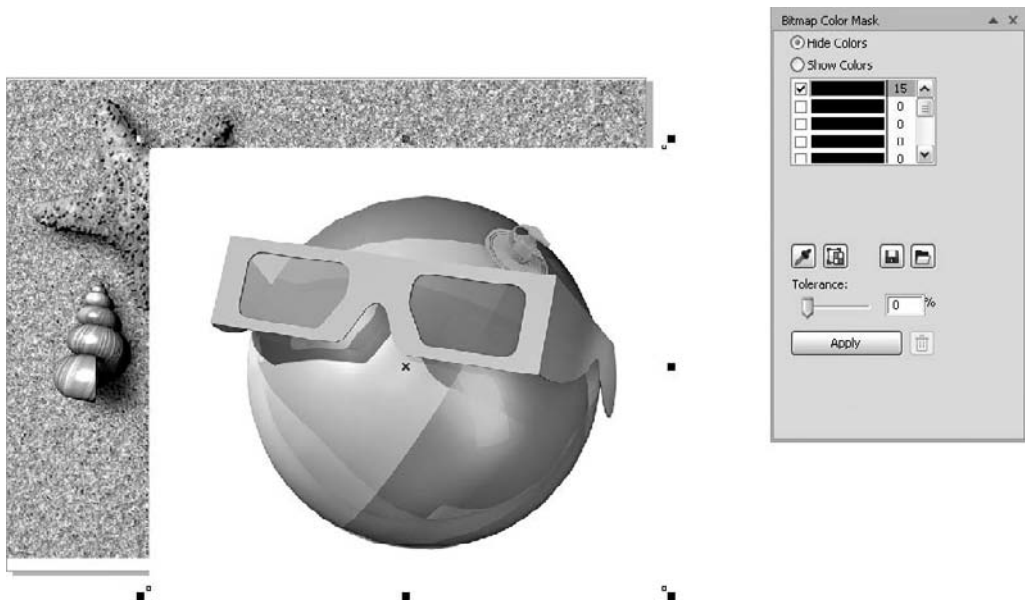

FIGURE 27-9 An image without a transparent background can't be successfully melded into a composition.
2. Import the Beach ball.png image. PNGs don't necessarily have to have a transparent background—clearly, this one doesn't. It's up to a designer to determine (and edit) a PNG file to contain transparency. Place it anywhere you like for the moment. As shown in Figure 27-9, the white area around the beach ball thwarts its integration into the beach scene.